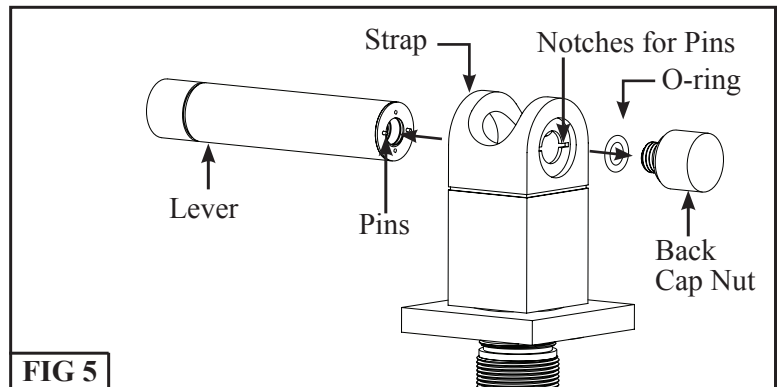

FIG 5
Step 3: Install the lever by inserting the lever into the strap and locking the lever into place with the back cap nut. See **FIG 5**.